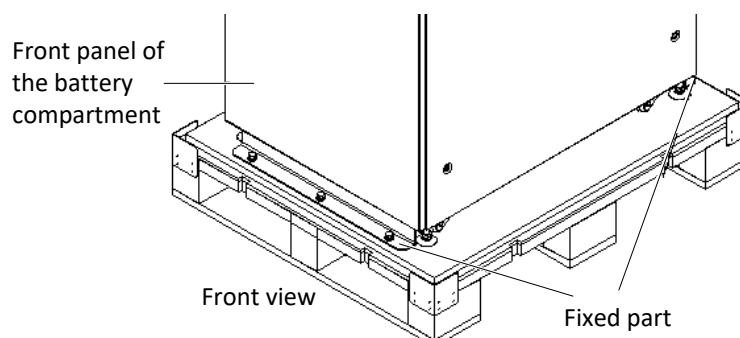

Figure 2-4 Removing bottom fixed part
3. Open the front panel of the built-in battery compartment, loosen the fixing screws and remove the fixed bottom part from the front of the cabinet. Then loosen the fixing screws and remove the fixed bottom part from the rear of the cabinet (see Figure 2-4).